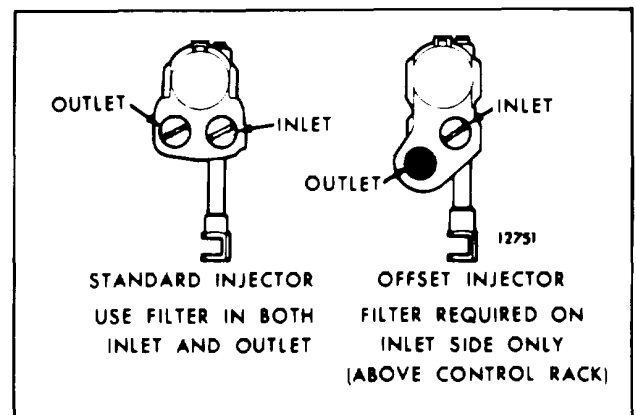

Fig. 34 - Location of Filter in Injector Body
**NOTE:** Whenever a fuel injector is disassembled, discard the filters and gaskets and replace with new filters and gaskets. In the offset injector, a filter is used in the inlet side only. No filter is required in the outlet side (Fig. 34).
Study Figs. 34 through 37 for the proper relative position of the injector parts, then proceed as follows:
**NOTE:** Install a new filter in the inlet side (located over the injector rack) in a fuel injector with an offset body. No filter is required in the outlet side of the offset body injector (Fig. 34).